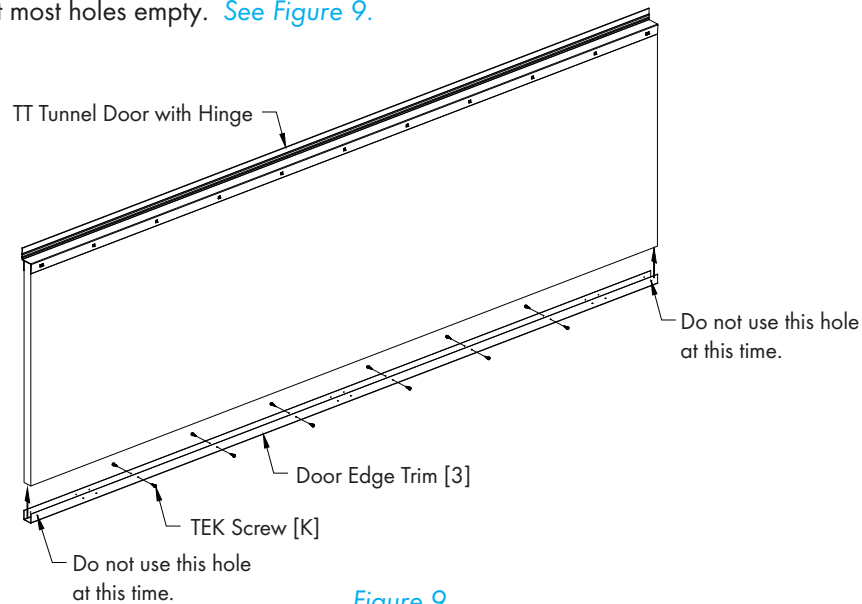

Figure 9
Find the Door Edge Trim [3] and slide it onto the bottom edge of the Tunnel Door and secure it with (12) TEK Screws [K] through the (6) single holes in the middle area of the Door Edge Trim, leave the left most and right most holes empty. See Figure 9.